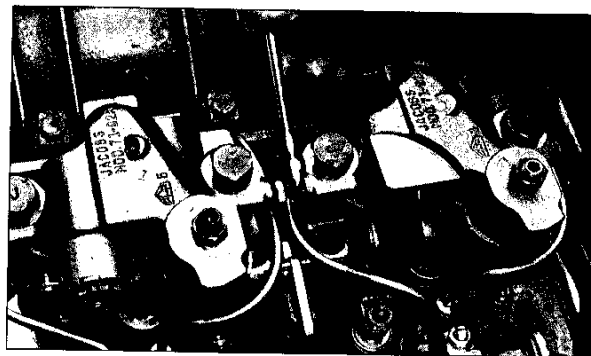

FIG. 1.6.14
- Reposition the seal ring in the head of the oil connector to make sure it fits into the recessed hex head of the connector screw (Fig. 1.6.14).